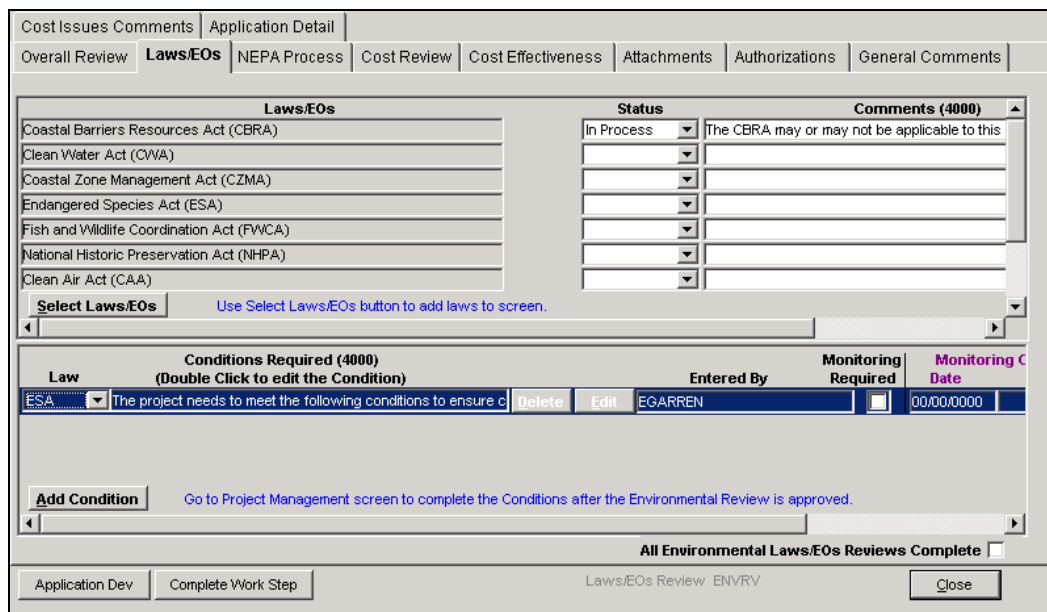

Figure 7-35: Laws/EOs Tab - Conditions Required - Left Side
- f. The newly-added required condition is displayed (Figure 7-35).